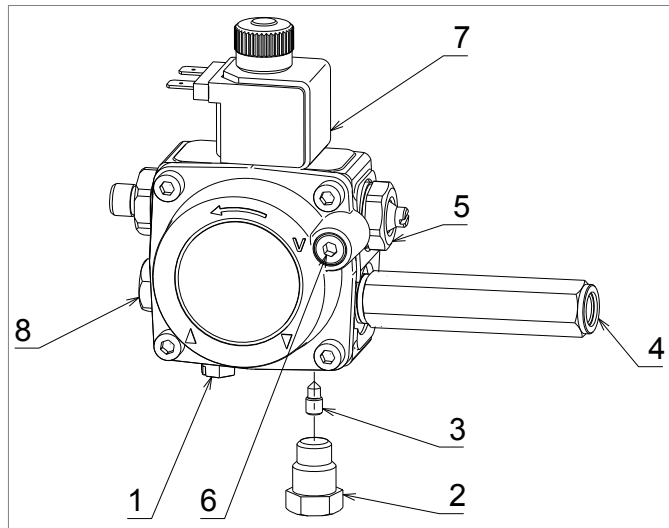

Figure 3-5: Riello oil pump
3.2.1 SINGLE PIPE (GRAVITY) CONNECTION - REFER TO FIGURE 3-5